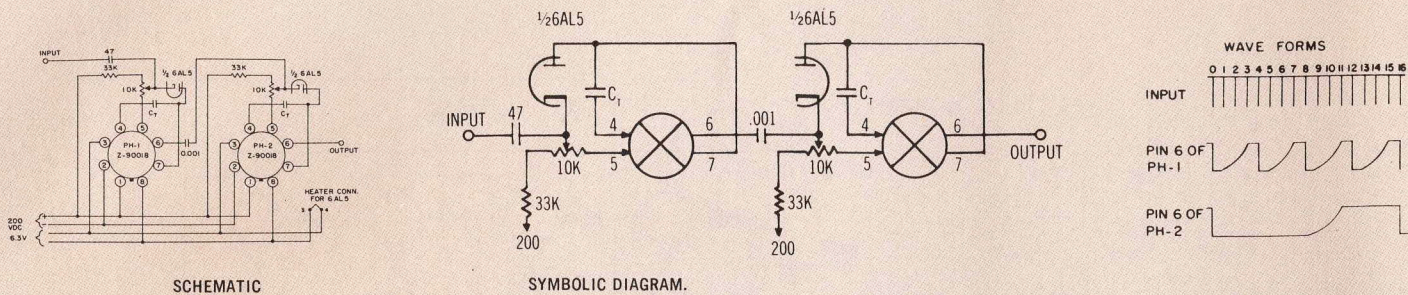
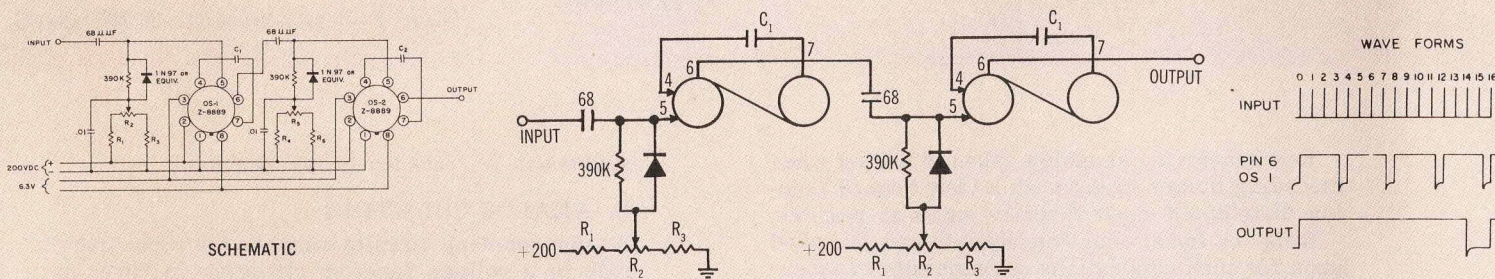

FIGURE 9.—FIXED FREQUENCY DIVIDER, USING PHANTASTRONS Z-90018.
FIGURE 10.—CASCADE FIXED FREQUENCY DIVIDER, USING ONE SHOTS Z-8889.
Analog counting circuits compare the input pulse rate to a voltage function changing in time, in order to divide by a desired number. This system of division requires that the input signal be of one fixed recurrent frequency and is not applicable to counting random input pulses. If space is at a premium, it may be desired to use this technique, where applicable, over that of digital circuits. Either the phantastron plug-in circuit, Z-90018, or the one shot, Z-8889, is useful for this application, as shown in Figures 9 and 10, respectively. The disadvantage of using analog-frequency divi-
sion rather than digital-frequency division is that, for large division rates, periodic adjustments of the potentiometers shown in the schematics may be necessary as the vacuum tubes age. The value of C_t in $\mu\mu\text{f}$ in Figure 9 depends upon the input frequency (f in pps) and the integer (N) by which a given stage is to divide its input frequency. This value is approximated by $C_t = N/f \times 1.1 \times 10^6$. The values of C_1 and C_2 in Figure 10 are approximately equal (in $\mu\mu\text{f}$) to $0.75N/f \times 10^6$.
Potentiometers R_2 and R_5 (Figure 10) should have a range of from 15 to 30 volts positive with respect to pin 1 of their associated plug-in unit.